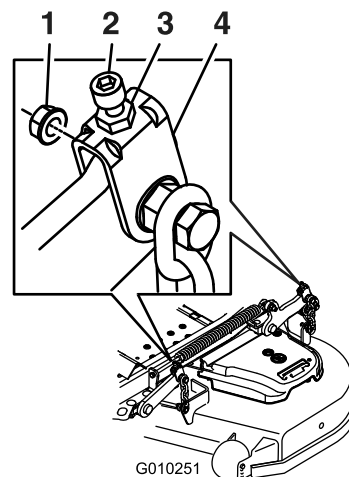

Figure 93
10. If needed, loosen the flanged locknut on the side of the yoke and the jam nut on top. Fine-tune the adjuster screw by turning it to get 7.6 mm (3 inch) height (Figure 93).
16. Fine-tune the adjuster screw by turning it to get 8.3 mm (3-1/4 inches) height (Figure 93).